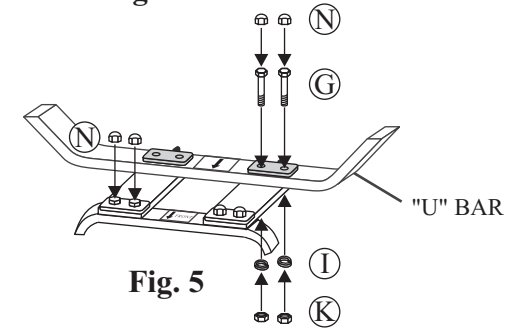

Fig. 5
Step 6: Critical Step: The "U" metal plates must be installed in the proper location. Read this step and carefully examine. Align the holes in the U bar with the holes in the rocker plates. Insert a "U" metal plate as shown in Fig.4. Guide the 5/16"x40mm bolts through the holes in the "U" metal plate, "U" bar, rocker plate, and bottom portion of the "U" metal plate as shown in Fig. 5. Add a Ø8.0 x 2.3 mm spring washer and a nut to each bolt as shown in Fig.5. **Hand tighten only.** Repeat the same procedure on the other side.